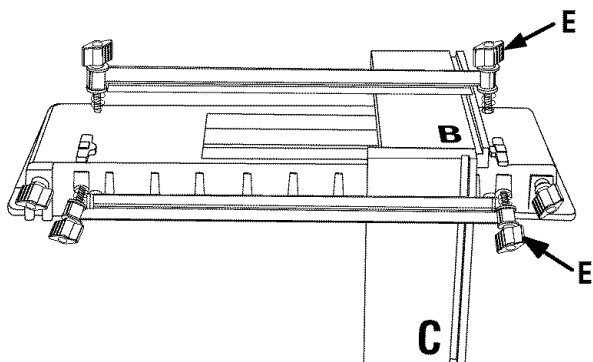

Fig. 26
You are now ready to rout your second offset dovetail joint. Do so by repeating the above procedure with boards (C) and (B) positioned against the right stops. See Figure 26.
- Insert board (C) between front clamping bar and front surface of dovetail base with bottom edge toward the right 2-way stop.
- Temporarily clamp board (C) “inside-out” to the right front of the fixture so that it extends above the base. This will assist in the proper positioning of board (B).
- Insert board (B) between top clamping bar and top surface of dovetail base, with bottom edge against right 3-way stop, and flush with extended portion of board (C).
- Tighten clamping knobs (E) on top clamping bar to hold board (B) securely.
- Relocate board (C) so that it is flush with the top of board (B) and against 2-way stop on right front of dovetail base.
- Tighten front clamping knobs (E) to hold board (C) securely.
- Attach comb-shaped template (F) and cut dovetail joint as described above.